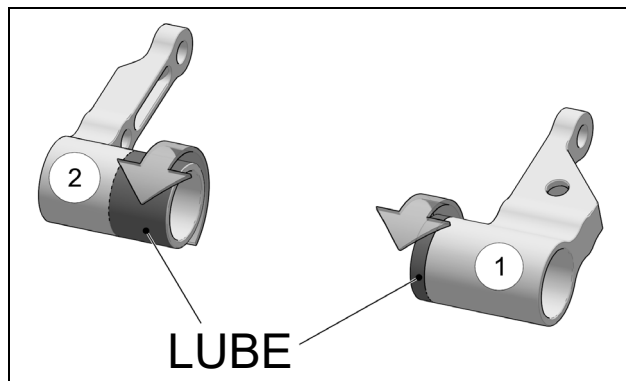

Figure 16
**NOTE:** Make sure to assemble the correct adapters on the Bike Mount's left (1) and right (2) sides.
- Apply lube on the portion of adapters inserted in Bike Mount. Figure 16.